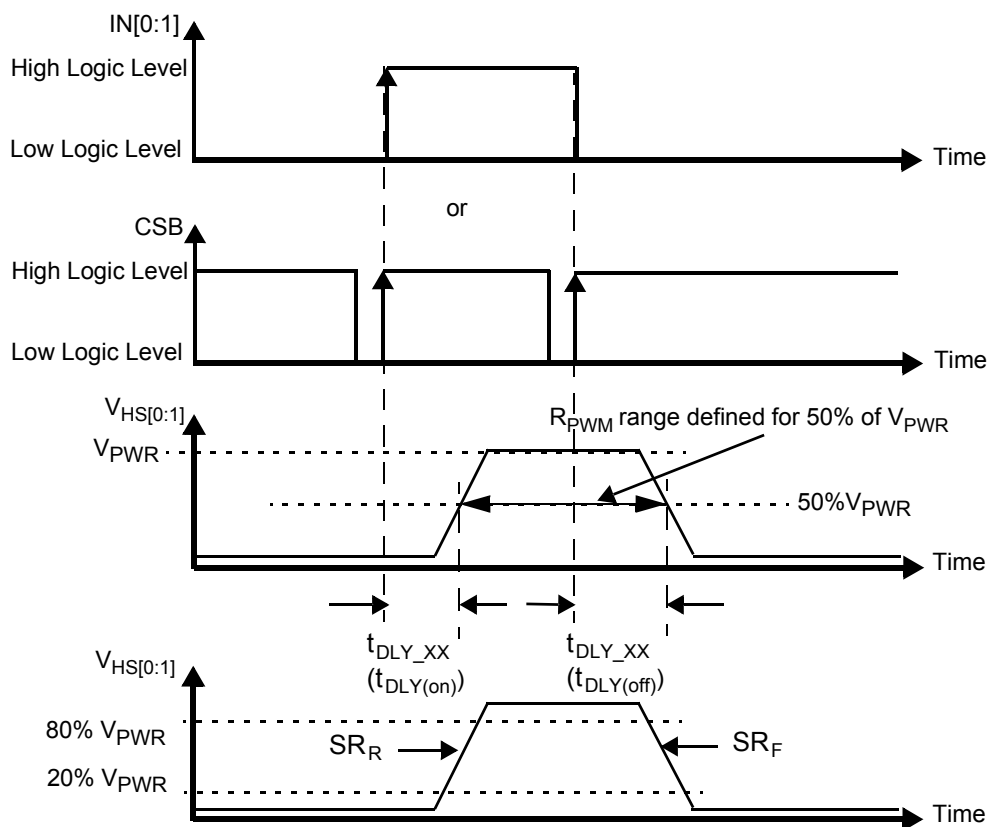
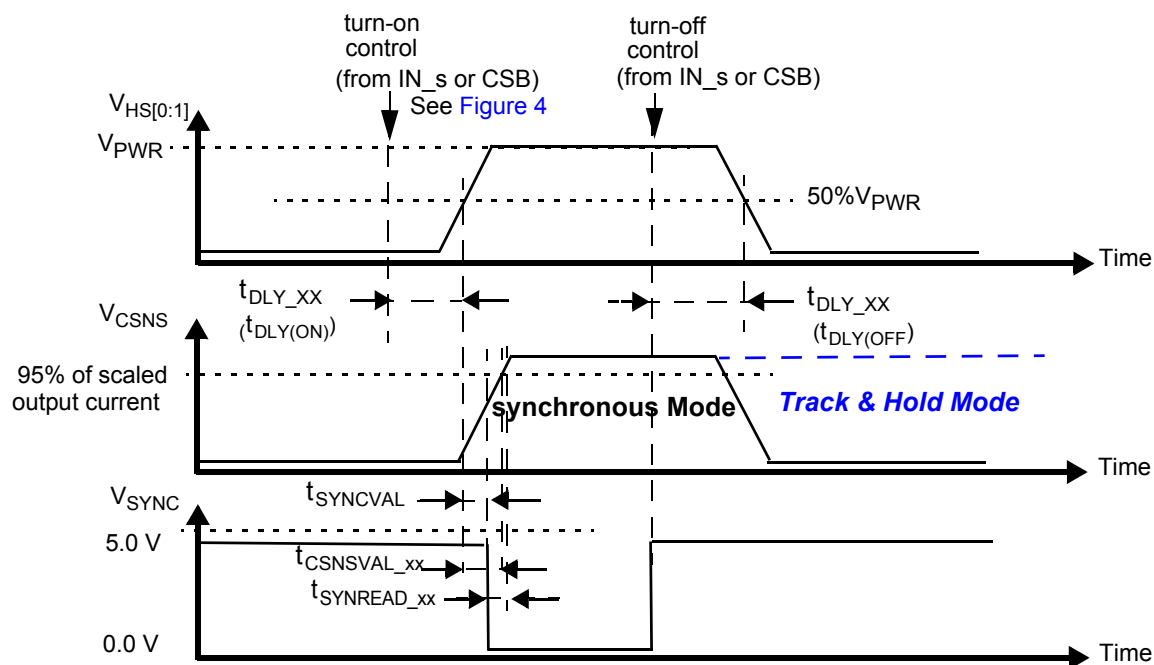

Figure 4. Output Voltage Slew Rate and Delay
Figure 9. Synchronous & Track-and-Hold Current Sensing Modes: Associated Delay & Settling Times
27. Rising and Falling edge slew rates specified for a 20% to 80% voltage variation on a $10.0\text{ }\Omega$ resistive load (see Figure 4).
29. Time required to switch off the channel after detection of overtemperature (OT), overcurrent (OC), SC or UV error (time measured between start of the negative edge on the FSB pin and the falling edge on the output voltage until $V(\text{HS}[0:1]) = 50\%$ of V_{PWR}).
30. Settling time ($= t_{CSNSVAL_XX}$), SYNC output signal delay ($= t_{SYNCVAL_XX}$) and Read-out delay ($= t_{SYNREAD_XX}$) are defined for a stepped load current ($100\text{ mA} < I(\text{LOAD}) < \text{IOCLX A FOR CSNS_RATIO_S} = 1$, AND $300\text{ mA} < I(\text{LOAD}) < \text{IOCLX A}_0$ FOR $\text{CSNS_RATIO_S} = 0$). (see Figure 9 and Output Current Monitoring (CSNS)).
To synchronize current sensing with an external process, the SYNC signal can be connected to a digital input of an external MCU. SYNC is asserted logic low when the current sense signal is accurate and ready to be read. The current sense signal on the CSNS pin has the specified accuracy $t_{SYNREAD_XX}$ seconds after the falling edge on the SYNC pin (Figure 9) and remains valid until a rising edge is generated. The rising edge that is generated by the SYNC pin at the turn-OFF instant (internal or external) may also be used to implement synchronization with the external MCU. Parameter t_{SYNVAL_XX} is defined as the time between the instant at the middle of the output-voltage rising edge ($HS[0:1] = 50\%$ of V_{PWR}), and the instant at which the voltage on the SYNC-pin drops below 0.4 V (V_{SOL}). The SYNC pins of different devices can be connected together to save micro-controller input channels. However, in this configuration, the CSNS function of only one device should be active at a time. Otherwise, the MCU does not determine the origin of the SYNC signal. The SYNC pin is open drain and requires an external pull-up resistor to V_{DD} .